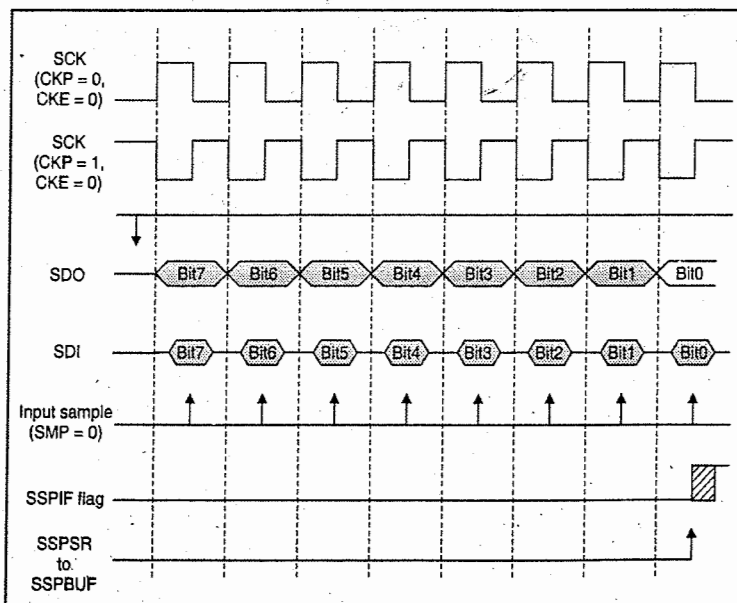

Fig. 12.9.6 : SPI slave mode (CKE = 0)
- Fig. 12.9.6 and 12.9.7 show the SPI slave mode waveforms with CKE = 0 and CKE = 1